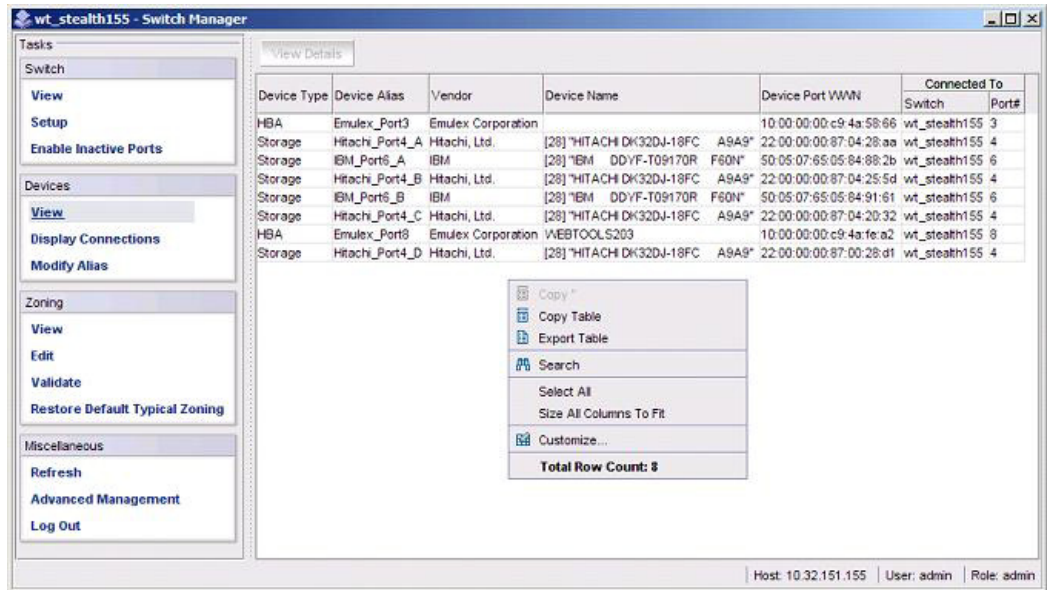
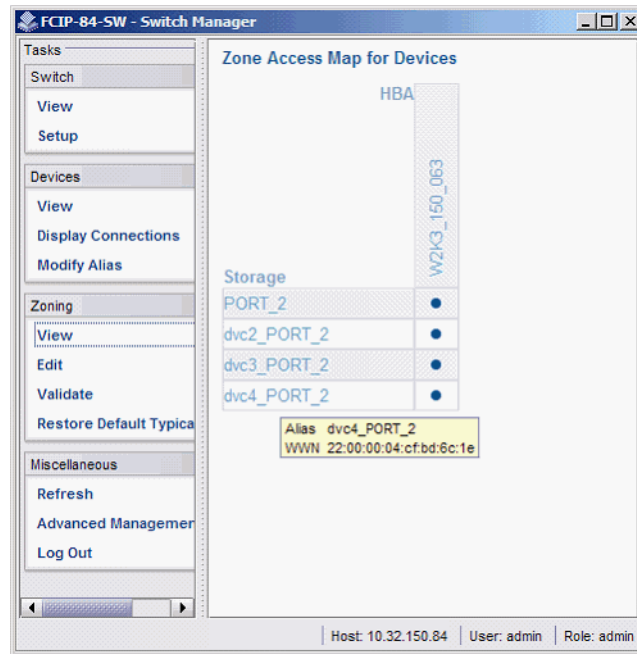

FIGURE 34 Devices view
FIGURE 40 Device alias in Zone Access Map
1. Click **View** under **Devices** in the task panel to display a table of information for all of the connected devices (Figure 34).
After you have defined the device aliases, the aliases are displayed under **Device Alias** when you select **View** under **Devices** (as in Figure 34). The device aliases are also displayed in the **Zone Access Map for Devices** when you select **View** under **Zoning** (Figure 40).